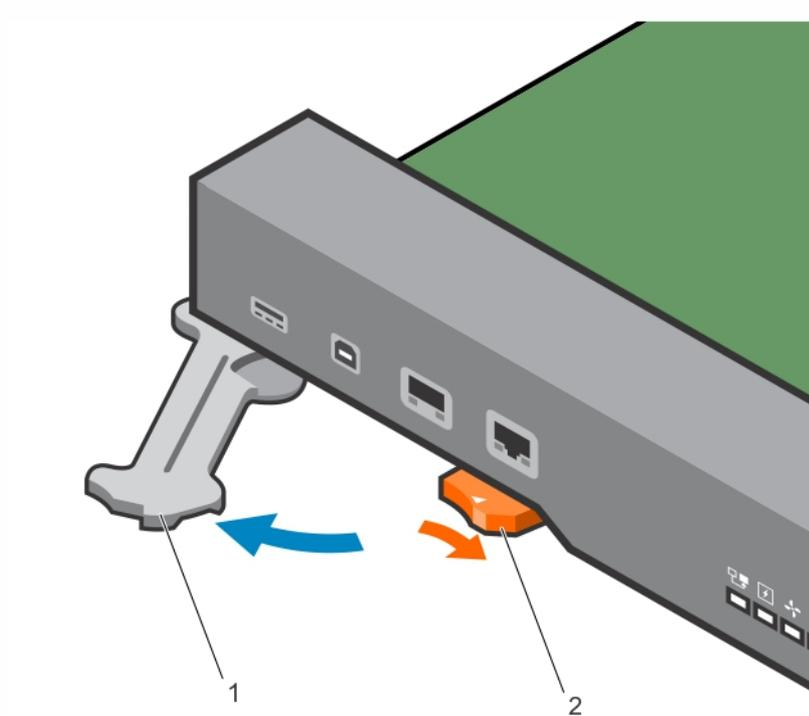

Figure 21. Extending the RPM Ejector Levers
- 1 Open the left and right ejector levers (item 1 in Figure 21) on an RPM by pressing in the orange tab (item 2 in Figure 21) and rotating it to the right so that both levers snap into the open position.